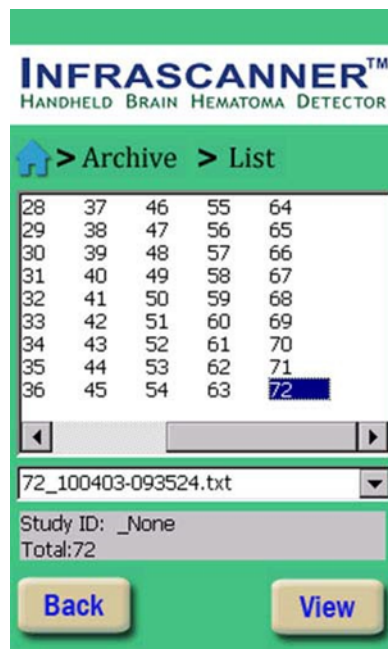

Figure 5-13: List of Measurements
- c. In the list of all the measurements select the required serial number of the measurement and click on “View” button, as shown in Figure 5-13.